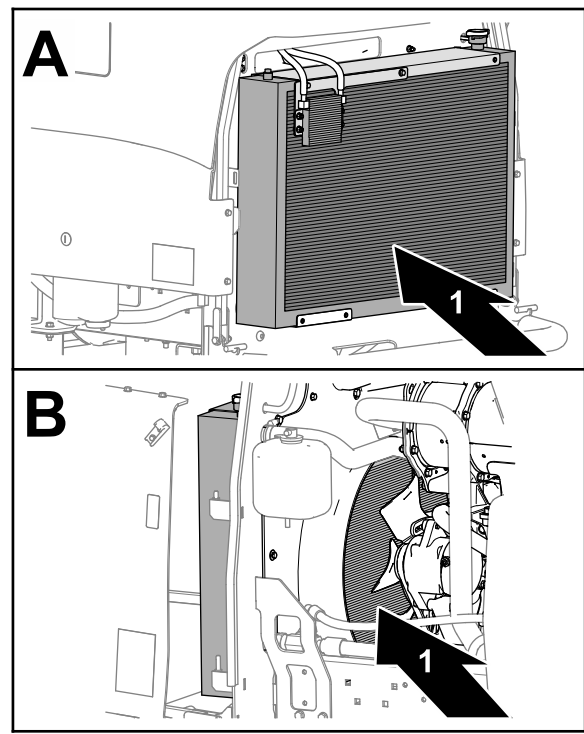

Figure 65
7. Thoroughly clean both sides of the radiator and oil cooler with compressed air (Figure 65).